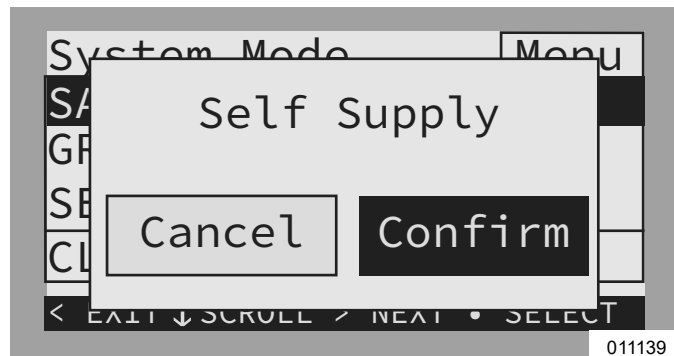

Figure 6-5. Selecting System Modes (3 of 3)
4. See Figure 6-5. Arrow right and press the center button to select Confirm.